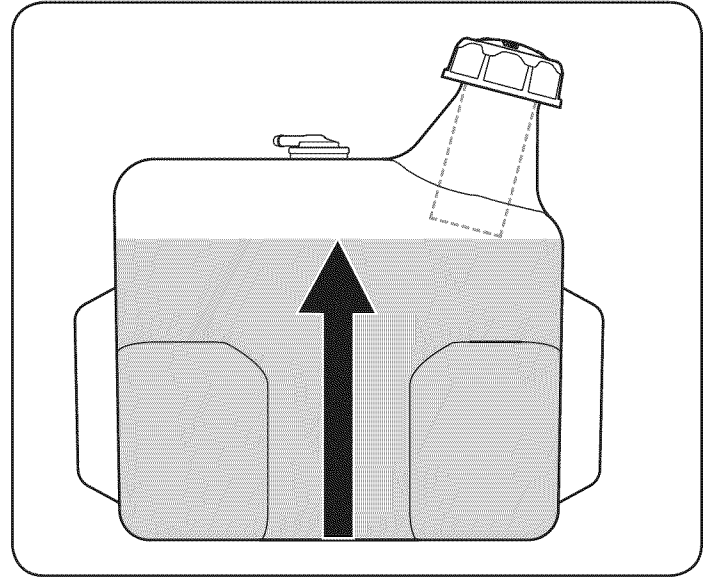

Figure 7
**Note:** The tractor is fitted with a tethered, ratcheting fuel cap. STOP filling the tank once the fuel is seen inside the filler neck. This ensures that a proper expansion volume is created, otherwise the fuel can overflow creating a hazardous situation. Do NOT top off the fuel tank. See Figure 7.